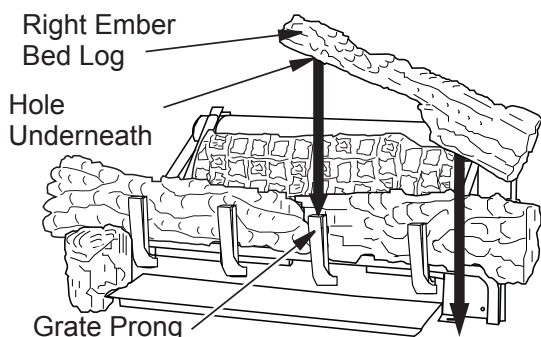

Figure 32 - Installing Right Ember Bed Log
5. The right ember bed log 24" & 30" (D-047) has a hole in the log that sets on the grate finger and the other end rests on the fireplace floor, place log as shown in **Figure 32, Page 19**.